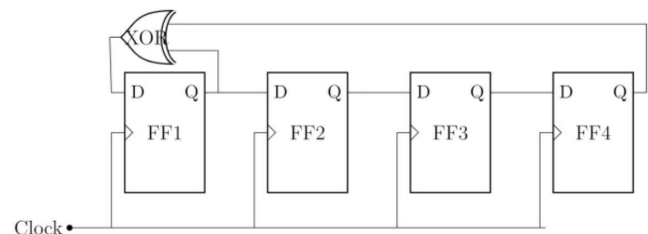

Fig. 4. Connection in XOR gate
- 4) Then we connected XOR gate (7486 IC) according to the figure 4